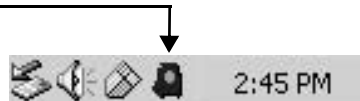

Figure 10 Starting the LinkMonitor program
- 2** In the system tray, right click the blue RSU icon (Figure 10) and select **Open**.